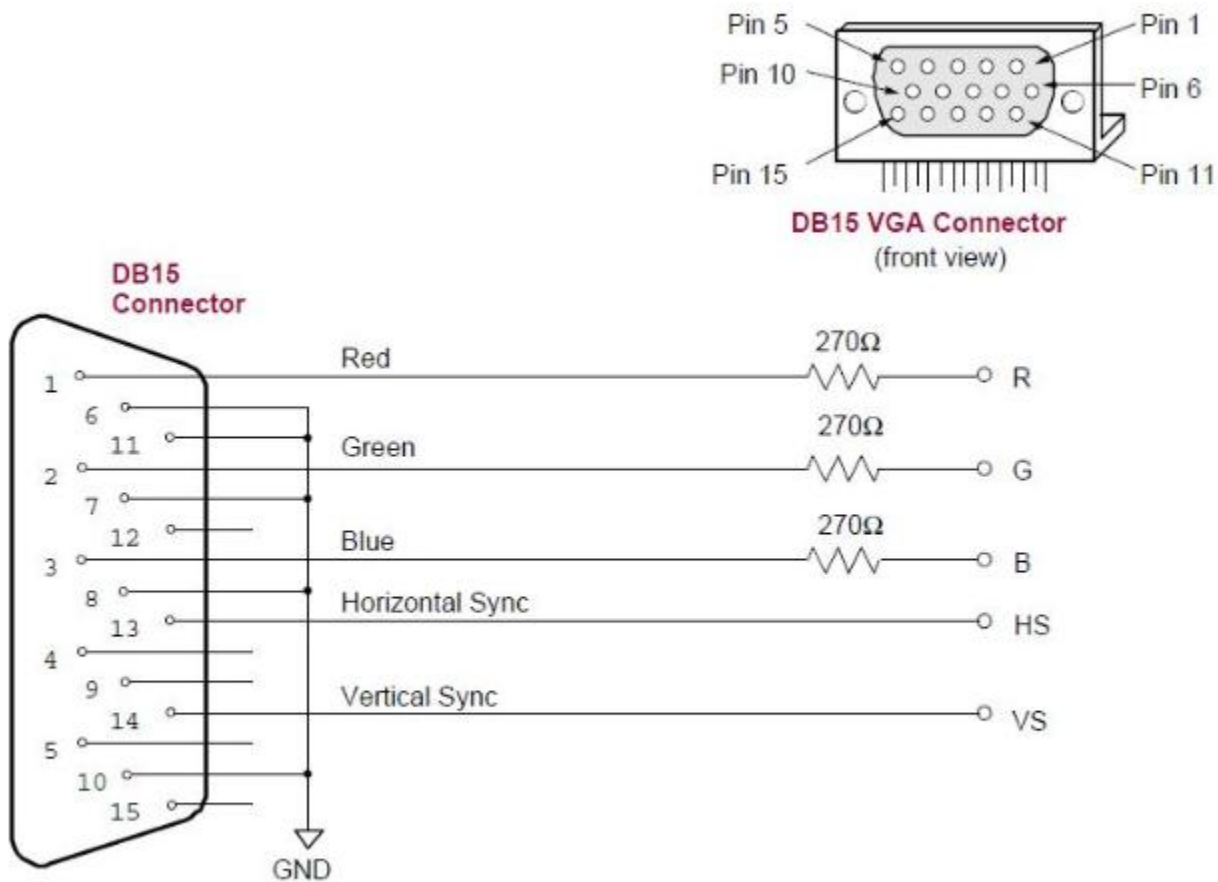

Figure 14. VGA interface from Spartan3e kit
As shown in Figure , the Spartan3eFPGA controls five VGA signals: Red (R) its 1st pin in connector, Green (G) its 2nd pin, Blue (B) its 3rd pin, Horizontal Sync (HS) 13th pin, and Vertical Sync (VS) its 14th pin, all available on the VGA connector. The FPGA pins that drive the VGA port appear in Table 8. A detailed schematic is in Figure 14.th